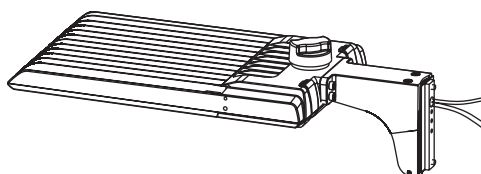

Figure 15
3. Reassemble the first two sections of the pole mount assembly by tightening the M8 × 25mm bolt in the center of the adjustment knuckle. Leave the third section of the assembly off as that will be installed on the pole separately. (Figure 15)